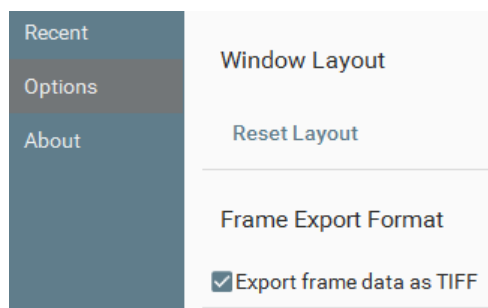

Figure 23: Export Frame Data as TIFF
1. In the **Options** view, enable **Export frame data as TIFF** (Figure 23).